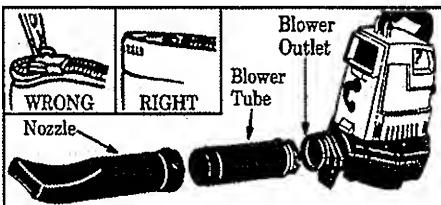

Figure 4
10. Never run the unit without the proper equipment attached. When using your unit as a blower, always install blower tubes. When using your unit as a vacuum, always install vacuum tubes and collection bag assembly. Make sure collection bag assembly is completely zipped as shown in Figure 4.
3. Close the zipper on the bag. Make sure the zipper is closed completely and the zipper seam is tucked toward the inside of the bag. Figure 4 (inset).
1. Remove the blower tube from the engine. Figure 4.
- Never run the unit without the proper equipment attached. When using your unit as a blower, always install blower tubes. When using your unit as a vacuum, always install vacuum tubes and collection bag assembly. Make sure collection bag assembly is completely zipped as shown in Figure 4.